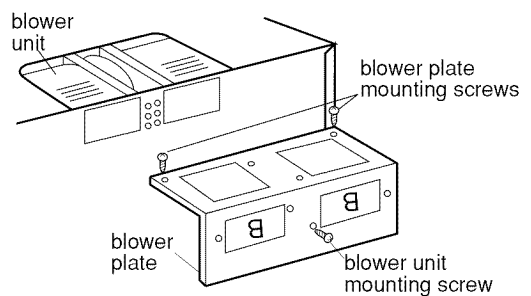

Figure 16
1. Remove one blower unit mounting screw and two blower plate screws. Remove the blower plate from cabinet. See Figure 16.